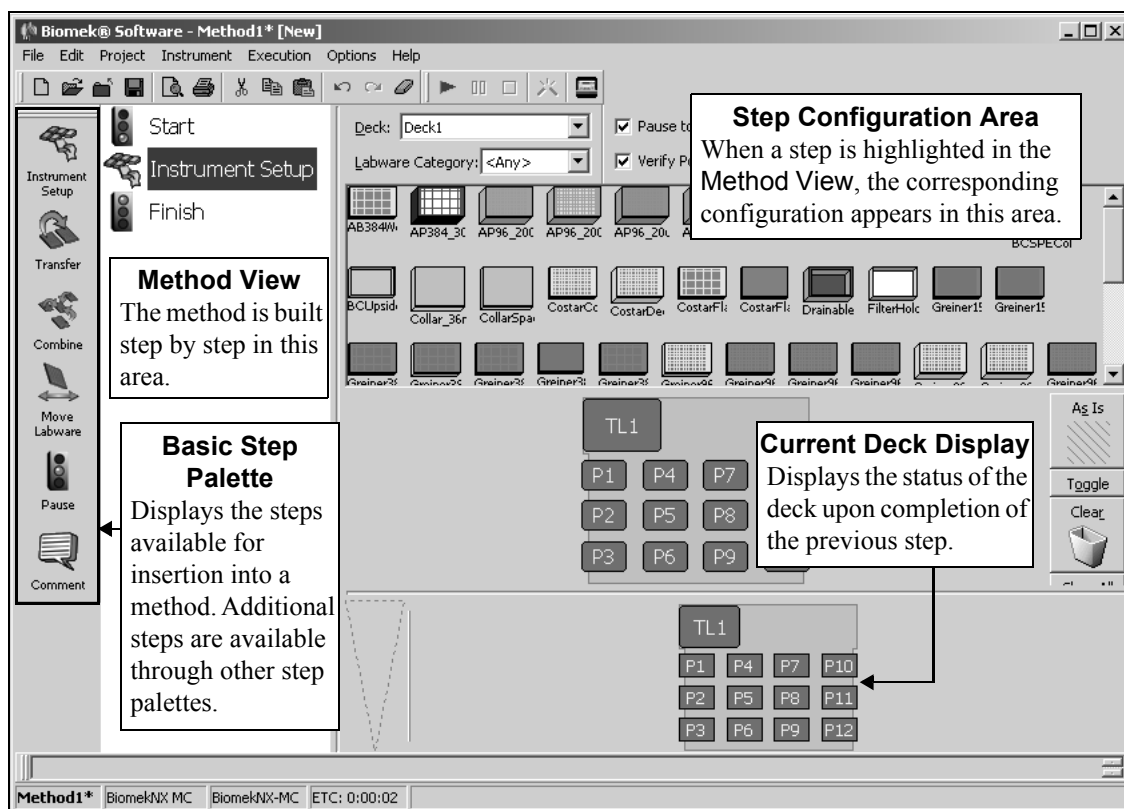

Figure 2-1. Biomek Software main editor for multichannel Biomek NX
1. Drag and drop an Instrument Setup step from the palette into the Method View. A new method is created and assigned the default name Method1 [New] (Figure 2-1).